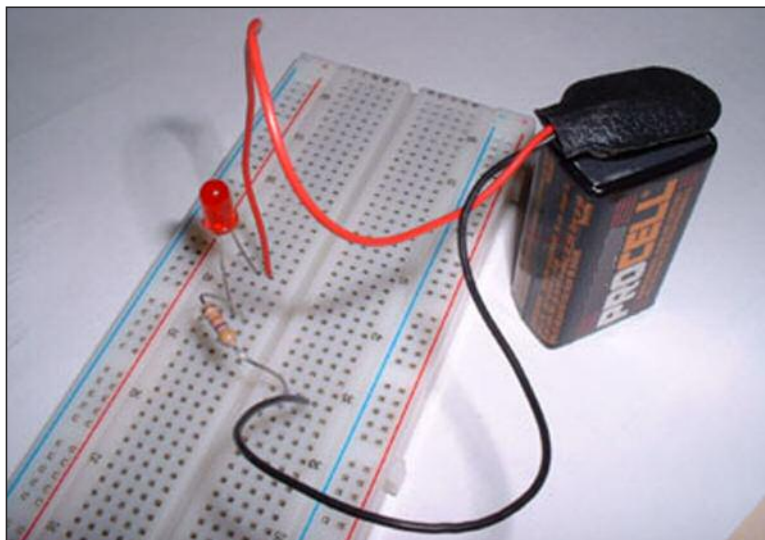

Figure 2
7. Finally, return the LED to its original position so the circuit LED lights up. Identify the resistor in the circuit in Figure 2. Remove the resistor and switch the component legs around just as you did in the other two experiments. Does the LED remain lit? **No** – then check your connection.